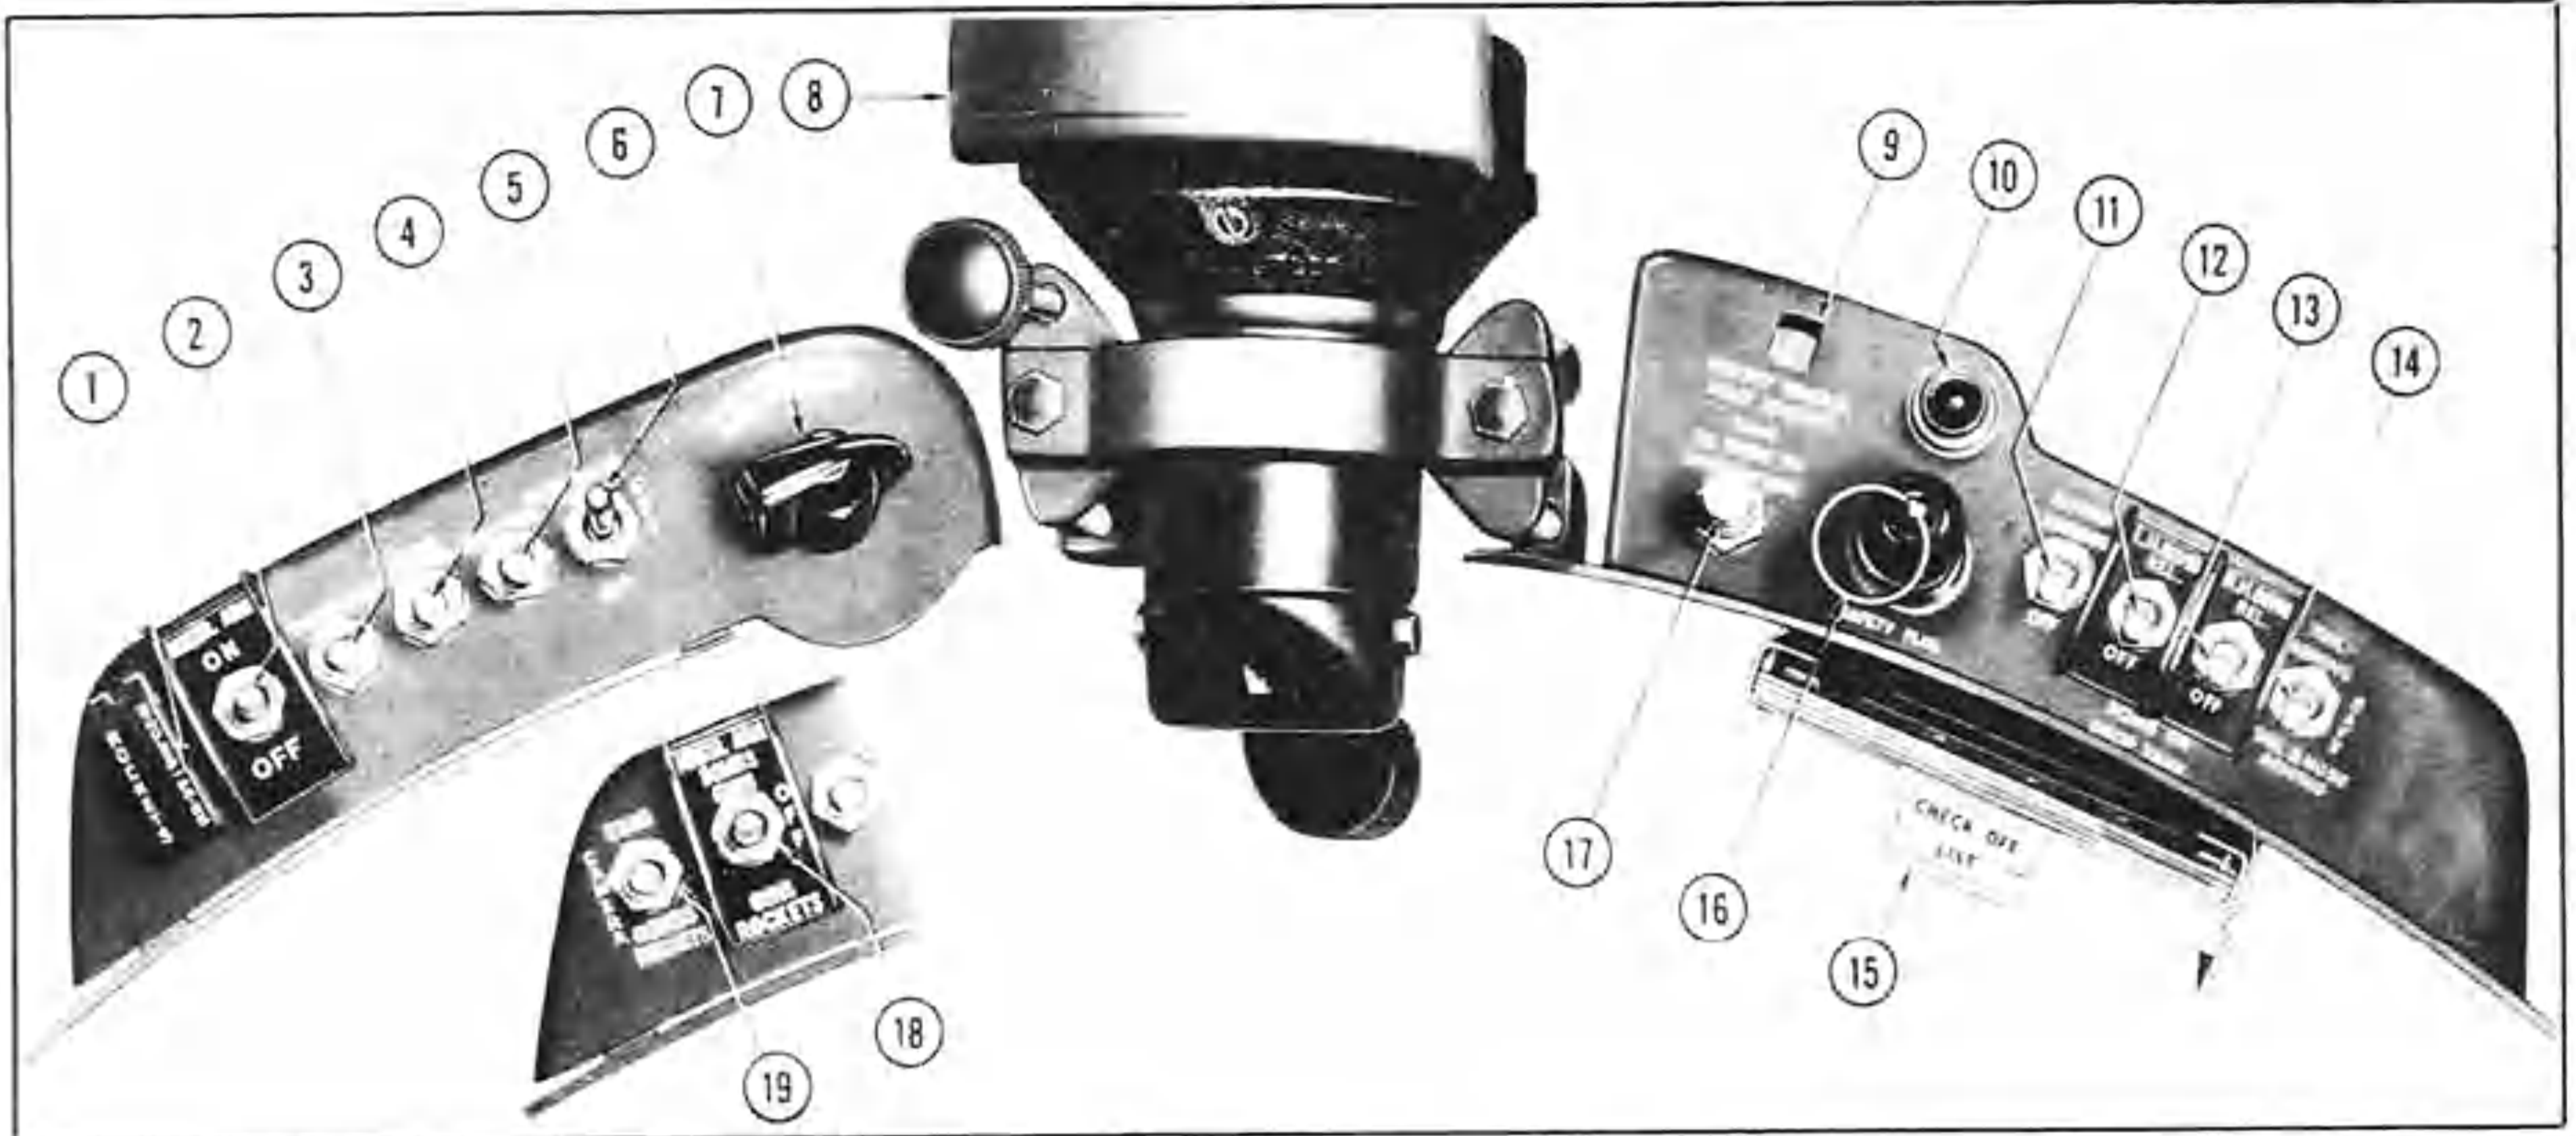
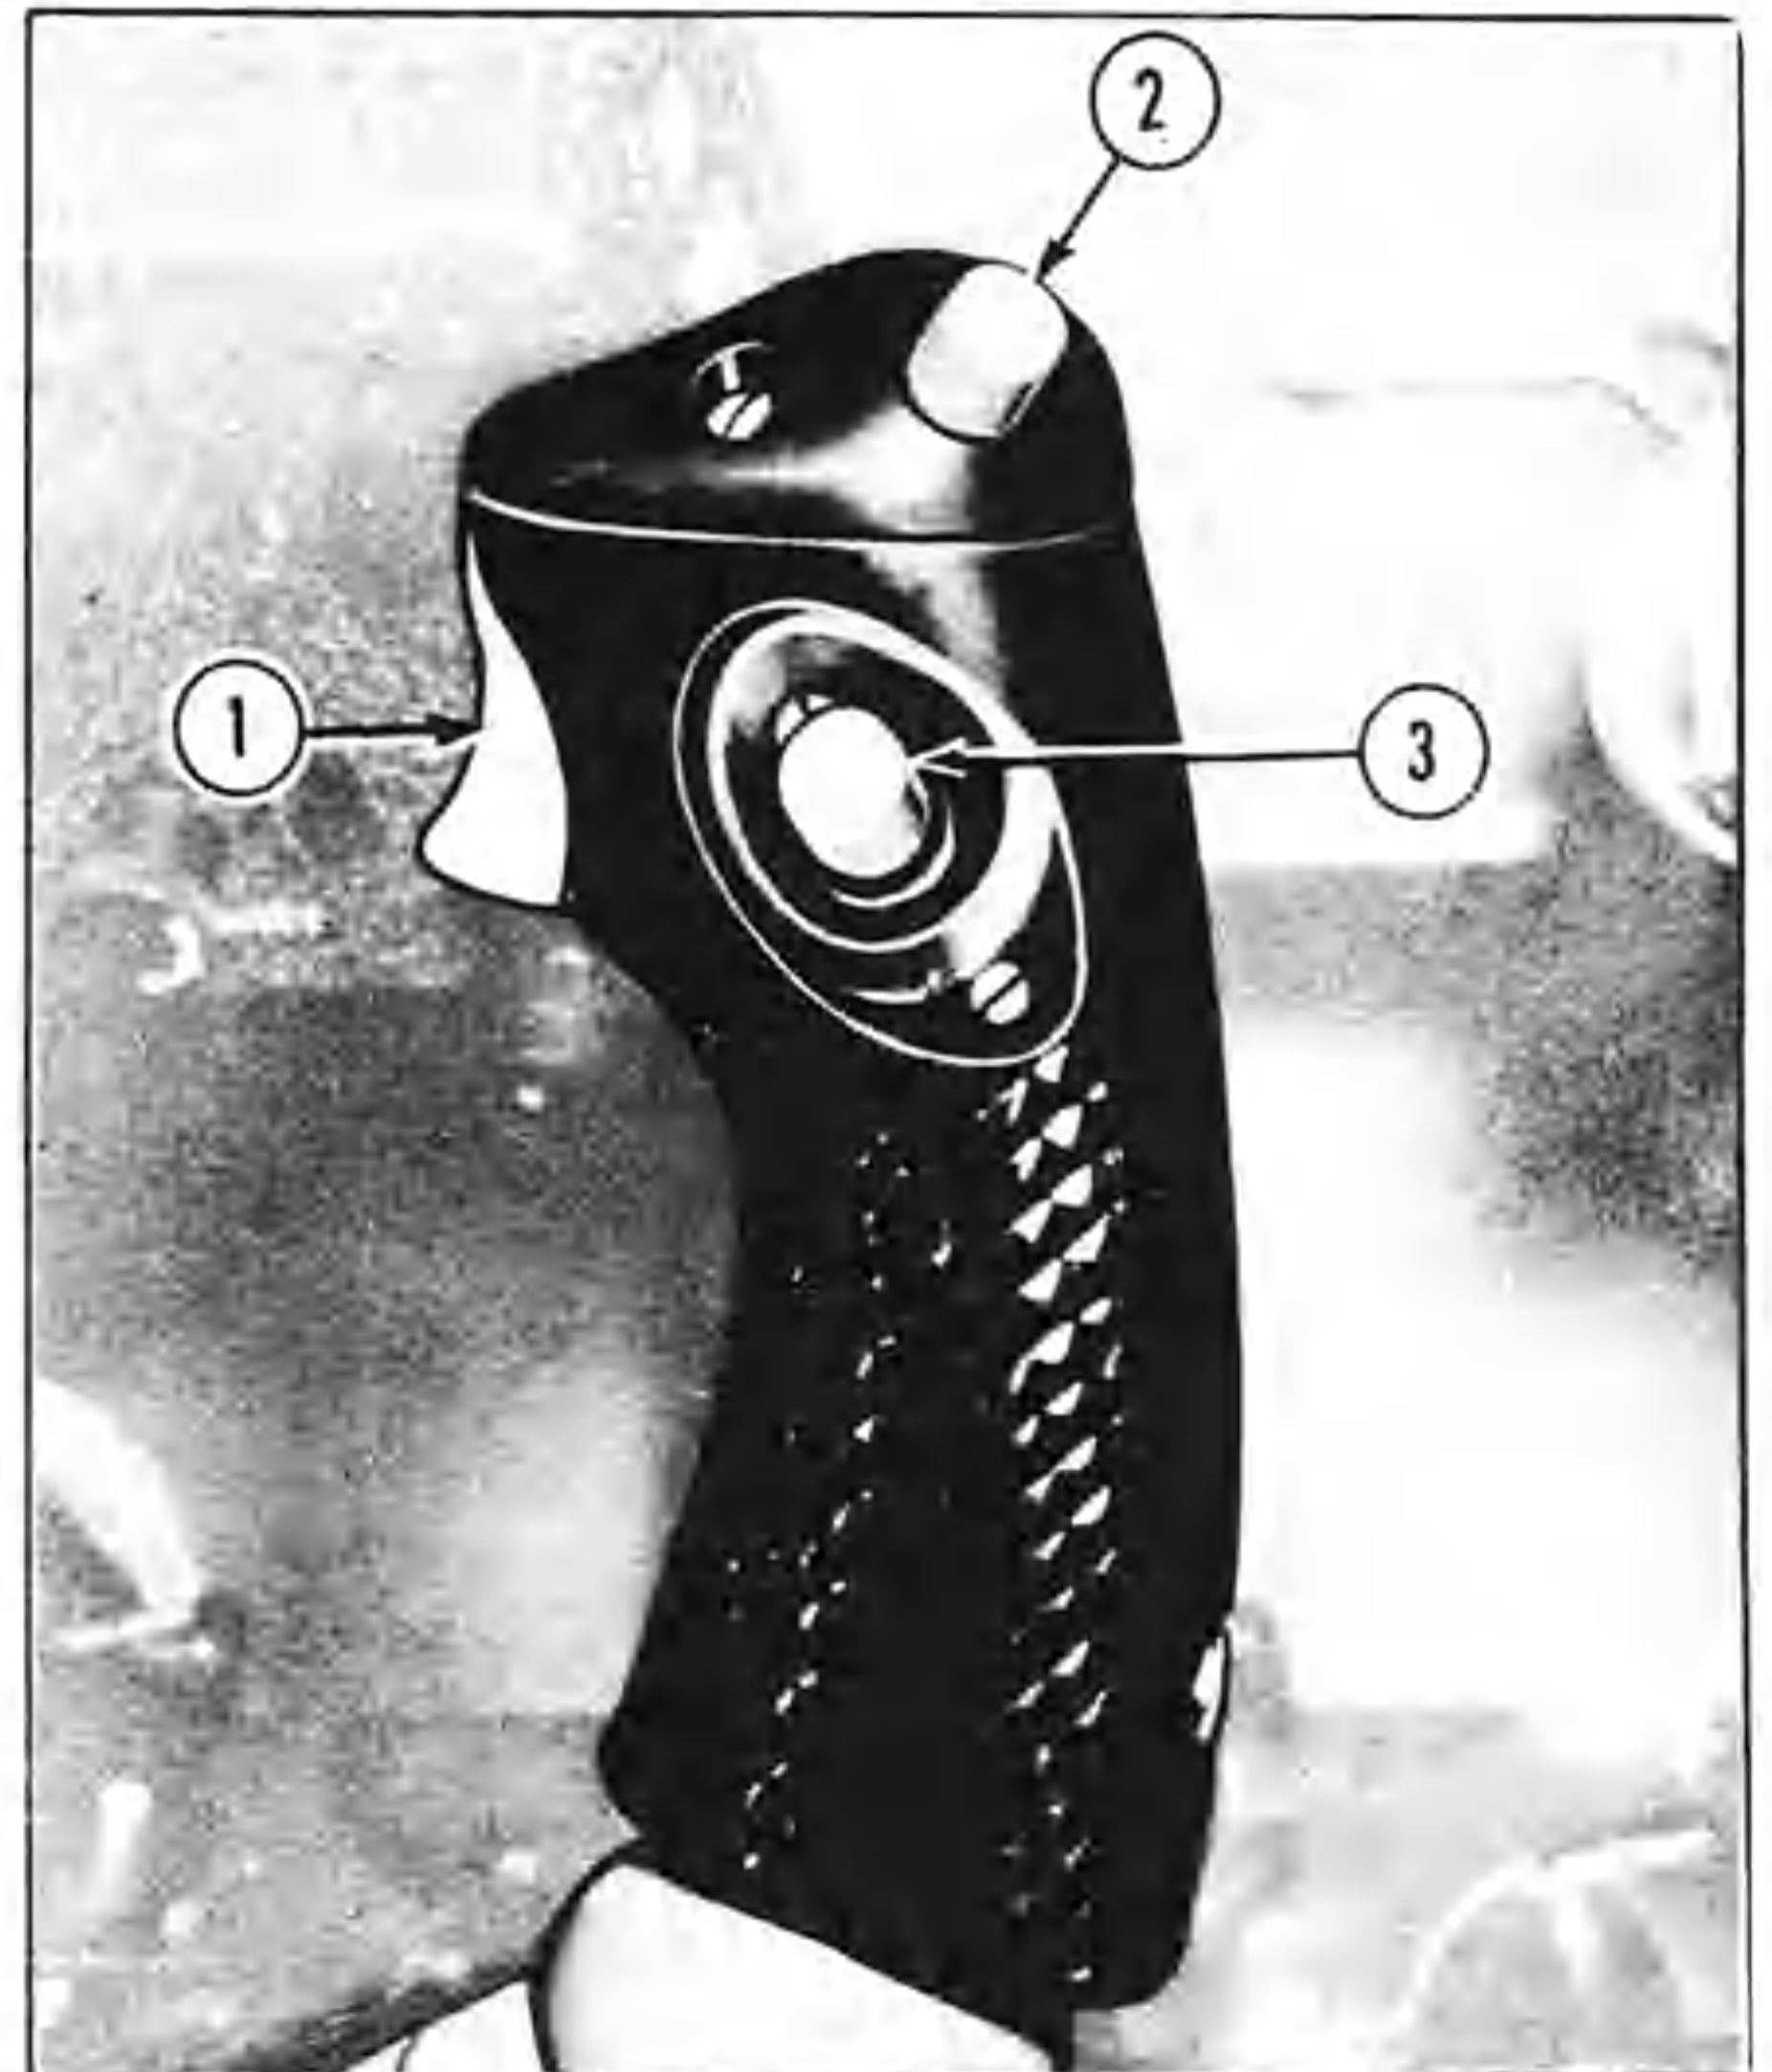

Figure 37 — Armament Controls
Figure 38 — Control Stick Armament Switches
The following description and operational instruction applies to the standard armament installations of the F2G-1 and F2G-2. In certain early F2G-1 airplanes, the armament controls differ from the standard installation as follows: a camera selector switch occupies the position of the rocket firing switch (see figure 37); the master-armament switch has three positions: **BOMBS-GUNS, OFF, GUNS-ROCKETS**; the control stick has a trigger and one thumb button instead of the standard trigger and two thumb buttons. Operational differences between this control system and the standard form are noted under the instructions for each type of armament.
(a) The master armament switch and the gun selector switches (see 2, 3, 4, 5, figure 37), and the trigger on the control stick (see figure 38) are connected in series with the firing solenoids on the guns and must all be closed before the guns will fire.
(b) To fire the guns, turn the master armament switch (see 2, figure 37,) to **ON**, turn the desired gun selector switches up and press the trigger switch on the control stick. The guns will fire as long as the trigger is held.
a. Is the selector switch for that gun turned on? (See 3, 4, 5, figure 37.)
In early planes with camera switches (see 19, figure 37) it is necessary to turn this switch to either the *GUN* or the *BOMB-ROCKET* position to heat the camera.
In some early F2G-1 airplanes a camera switch replaces the standard rocket firing switch. (See 19, figure 37.) On these planes the camera may be operated by means of either the gun trigger or the bomb-rocket thumb button, but only after the camera switch has been turned to the corresponding position.
(a) The Mark 8 gunsight is equipped with a two filament lamp for projection of the target image. One filament serves for normal use and is lighted when the gun sight switch is at ON. (See 6, figure 37.) The other filament, lighted by turning the switch to ALT, is a "spare" for use in case
(b) The brilliance of the gun sight target can be controlled by the gun sight rheostat. (See 7, figure 37.)
1. Master armament switch — *ON*. (See 2, figure 37.)
In early models, with the double throw armament switch, this switch must be set to *BOMBS-GUNS*. (See 18, figure 37.)
2. Selector switches on as desired. (See 12 and 13, figure 37.)
3. Arming switch set as desired. (Refer to Bomb Arming, paragraph (2) above.)
Some early F2G-1 airplanes have only one thumb switch on the control stick. This switch serves both to drop bombs and to launch rockets, its function at any time being determined by the setting of the master armament switch. (See 2, figure 37.)
In early model planes with the double throw armament switch, this switch should be at *BOMBS-GUNS*. (See 18, figure 37.)
(c) Press the bomb release thumb switch on the top of the control stick to launch the selected rocket or rockets. (See figure 38.)
5. Press the rocket firing button on the control stick. (See figure 38.) Two rockets will be launched each time this button is pressed, the order of launching being 1R, & 1L, 2R & 2L, 3R & 3L, 4R & 4L, (numbering from inboard out).
5. Press the rocket firing button on the control stick. (See figure 38.) One rocket will be launched each time this button is pressed until four rockets have been fired. The order of firing is 1L, 2R, 3L, 4R, (numbering from inboard out).